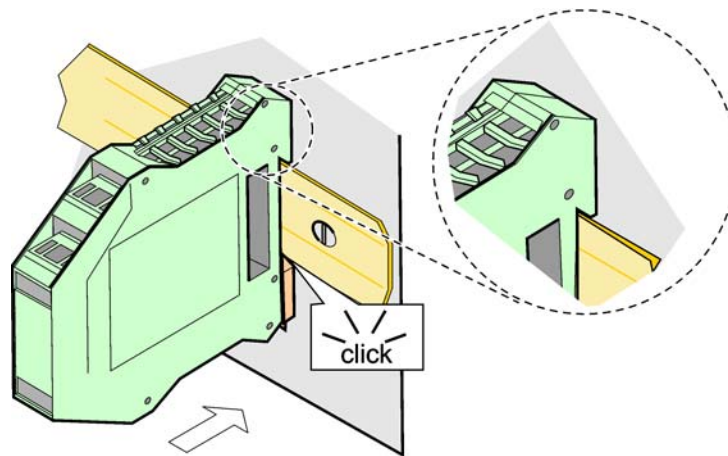

Figure 74 Attaching an expansion module
3. Swivel the module downwards and press it into the DIN rail until it audibly engages (Figure 74).